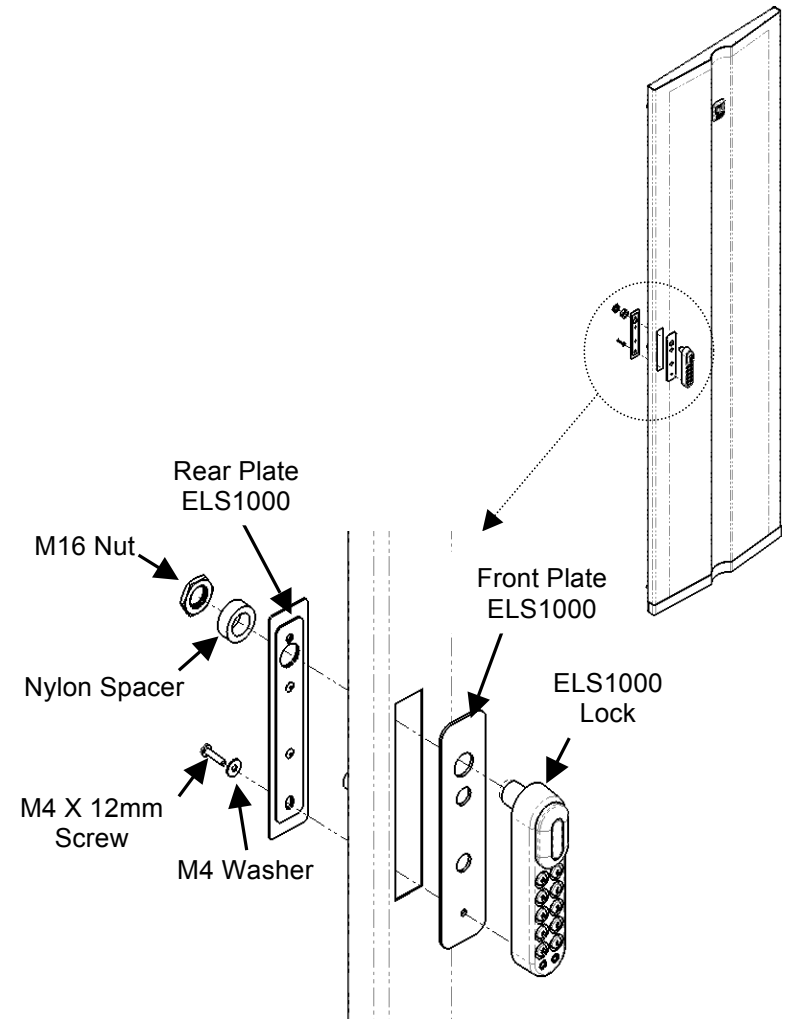

Fig. 3
2. Place the ELS1000 lock into the Front plate border on the Global Frame door with the lock spindle orientation up and rear plate from other side of door.(Fig.3)
3. Secure the ELS1000 lock to the rear plate with M4 X 12mm screw & M16 Nut while holding the front plate & door in between.(Fig.3)